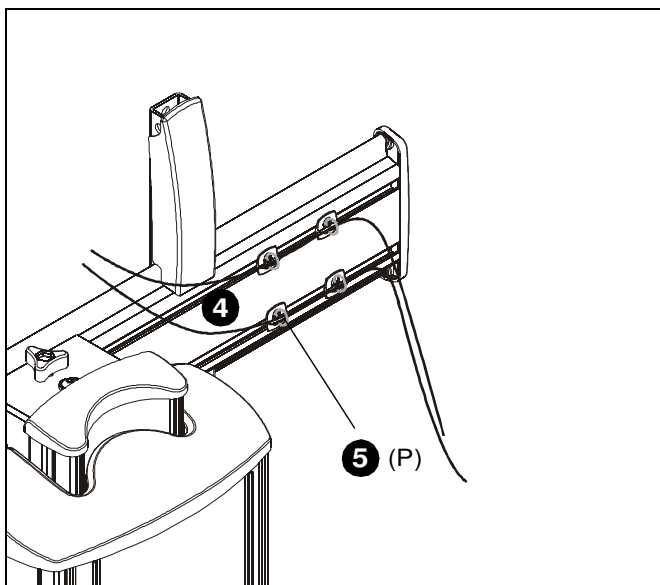

Figure 11
4. Route cables along FCA clips to be used for cable management. (See Figure 11)
5. Use cable ties (P) to secure cables to FCA clips. (See Figure 11)